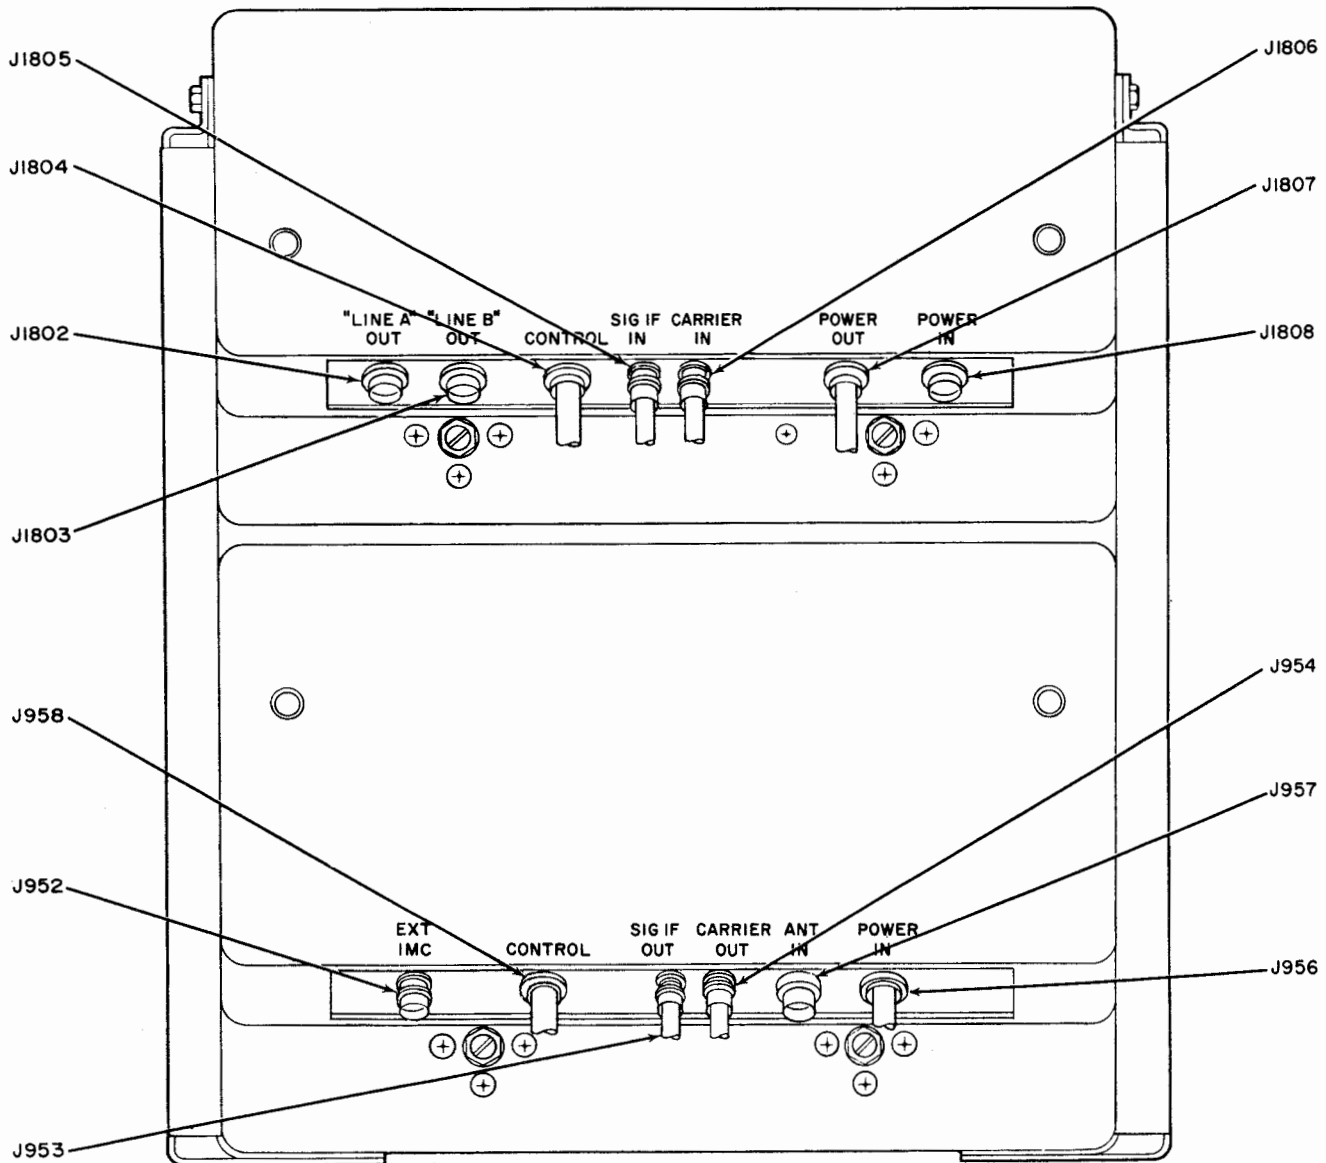

Figure 2-6. External Cable Connections
(4) REASSEMBLY.—To reassemble the cabinet structure, reverse the foregoing process.
(5) REMOVAL AND REPLACEMENT OF BLISTERS.—A subassembly in the form of a blister is attached to the rear of each cabinet by sliding snap fasteners. Connectors for external and interconnecting cabling are mounted on the blisters (see figure 2-6). To remove a blister, reach in from the front of the empty cabinet, disengage the fasteners and withdraw the blister through the cabinet, taking care not to damage the connectors. Replace by reversing the process.
d. CABLE CONNECTIONS.—Although bulk cable is not supplied with the receiver, appropriate connectors (plugs) are furnished for all necessary external cable connections. Interconnecting cables between the converter and demodulator drawers are furnished as complete assemblies. Receptacles for all external and interconnecting cables are located in the recessed panels at the rear of each drawer, as shown in figure 2-6. Table 2-1 contains a summary of the types and functions of all external connecting plugs and their mating receptacles.
(2) COMPLETING EXTERNAL CONNECTIONS. — Figure 2-6 displays all external connections, as well as interconnections between drawers. To complete these connections, proceed as follows:
(3) COMPLETING INTERCONNECTIONS.—Interconnecting cables are furnished as complete assemblies and are installed as shown in figure 2-6. Coaxial cables W601 and W602 (type RG58C/U) terminate in male plugs at both ends and are identical. Receptacles are labeled SIG IF OUT and CARRIER OUT on the lower panel and SIG IF IN and CARRIER IN on the upper panel. Interchanging these cables will not affect performance, so long as they are not cross-connected. Primary ac power is supplied to the converter drawer by cable W603 (type MCOS-2), which has three conductors with female plugs at both ends. Contact B goes to ground; A and C complete the ac circuit. Receptacles are labeled POWER OUT on the demodulator panel and POWER IN on the converter panel. Control voltages are carried by cable W604 (type DCOP-1-1/2). This cable has three conductors, is shielded, and is fitted with a male plug at one end and a female plug at the other. Receptacles are labeled CONTROL on both panels. The demodulator panel CONTROL receptacle is a female fitting.